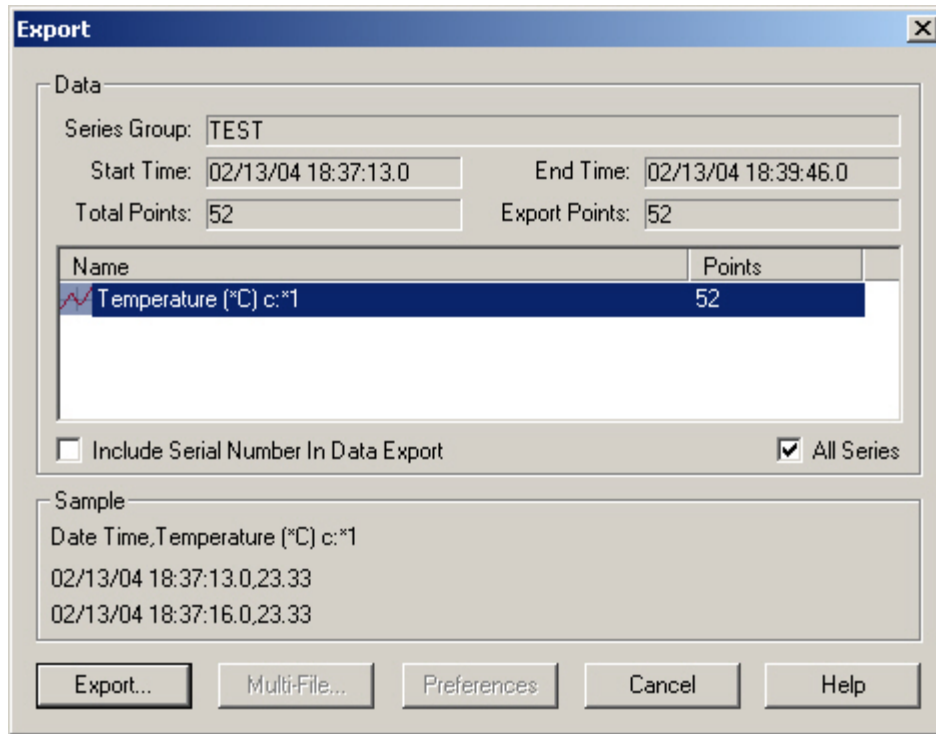

Fig. 9 Exporting to Excel
17. You can export and save your data as an Excel spreadsheet by clicking the button pointed out in fig. 8. A window similar to fig. 9 will appear. Click **Export**.